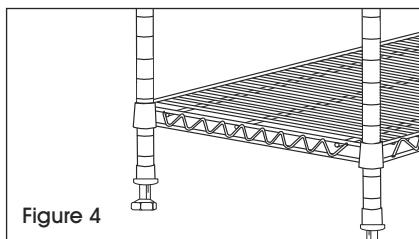

Figure 4
4. Stand unit upright. Gently tap shelf down to secure it. (See Figure 4)